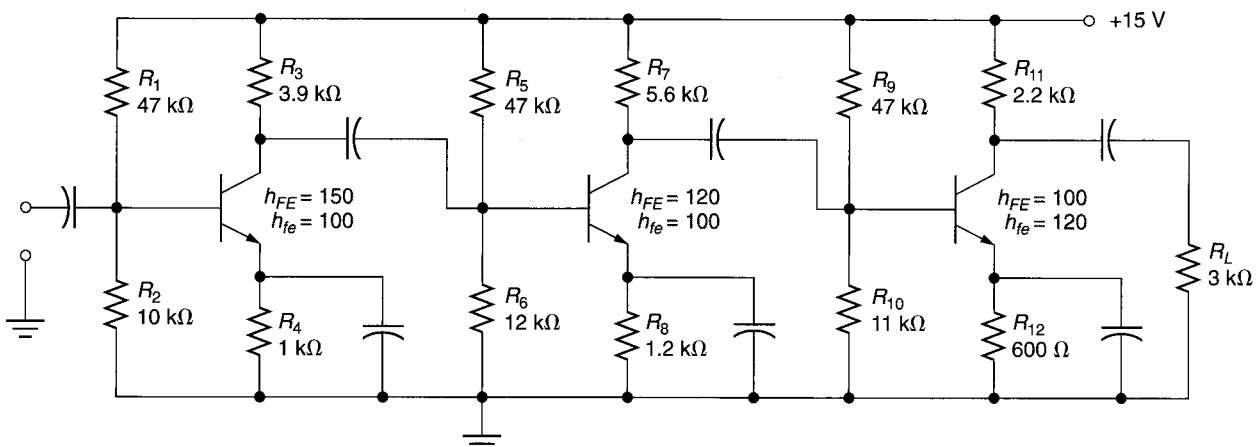

FIGURE 9.34
43. Determine the value of  $A_v$  for the third stage of the amplifier in Figure 9.34.
44. Determine the value of  $A_v$  for the second stage of the amplifier in Figure 9.34.
45. Determine the value of  $A_v$  for the first stage of the amplifier in Figure 9.34.
49. Determine the values of  $A_{vT}$ ,  $A_{iT}$ , and  $A_{pT}$  for the amplifier in Figure 9.34.